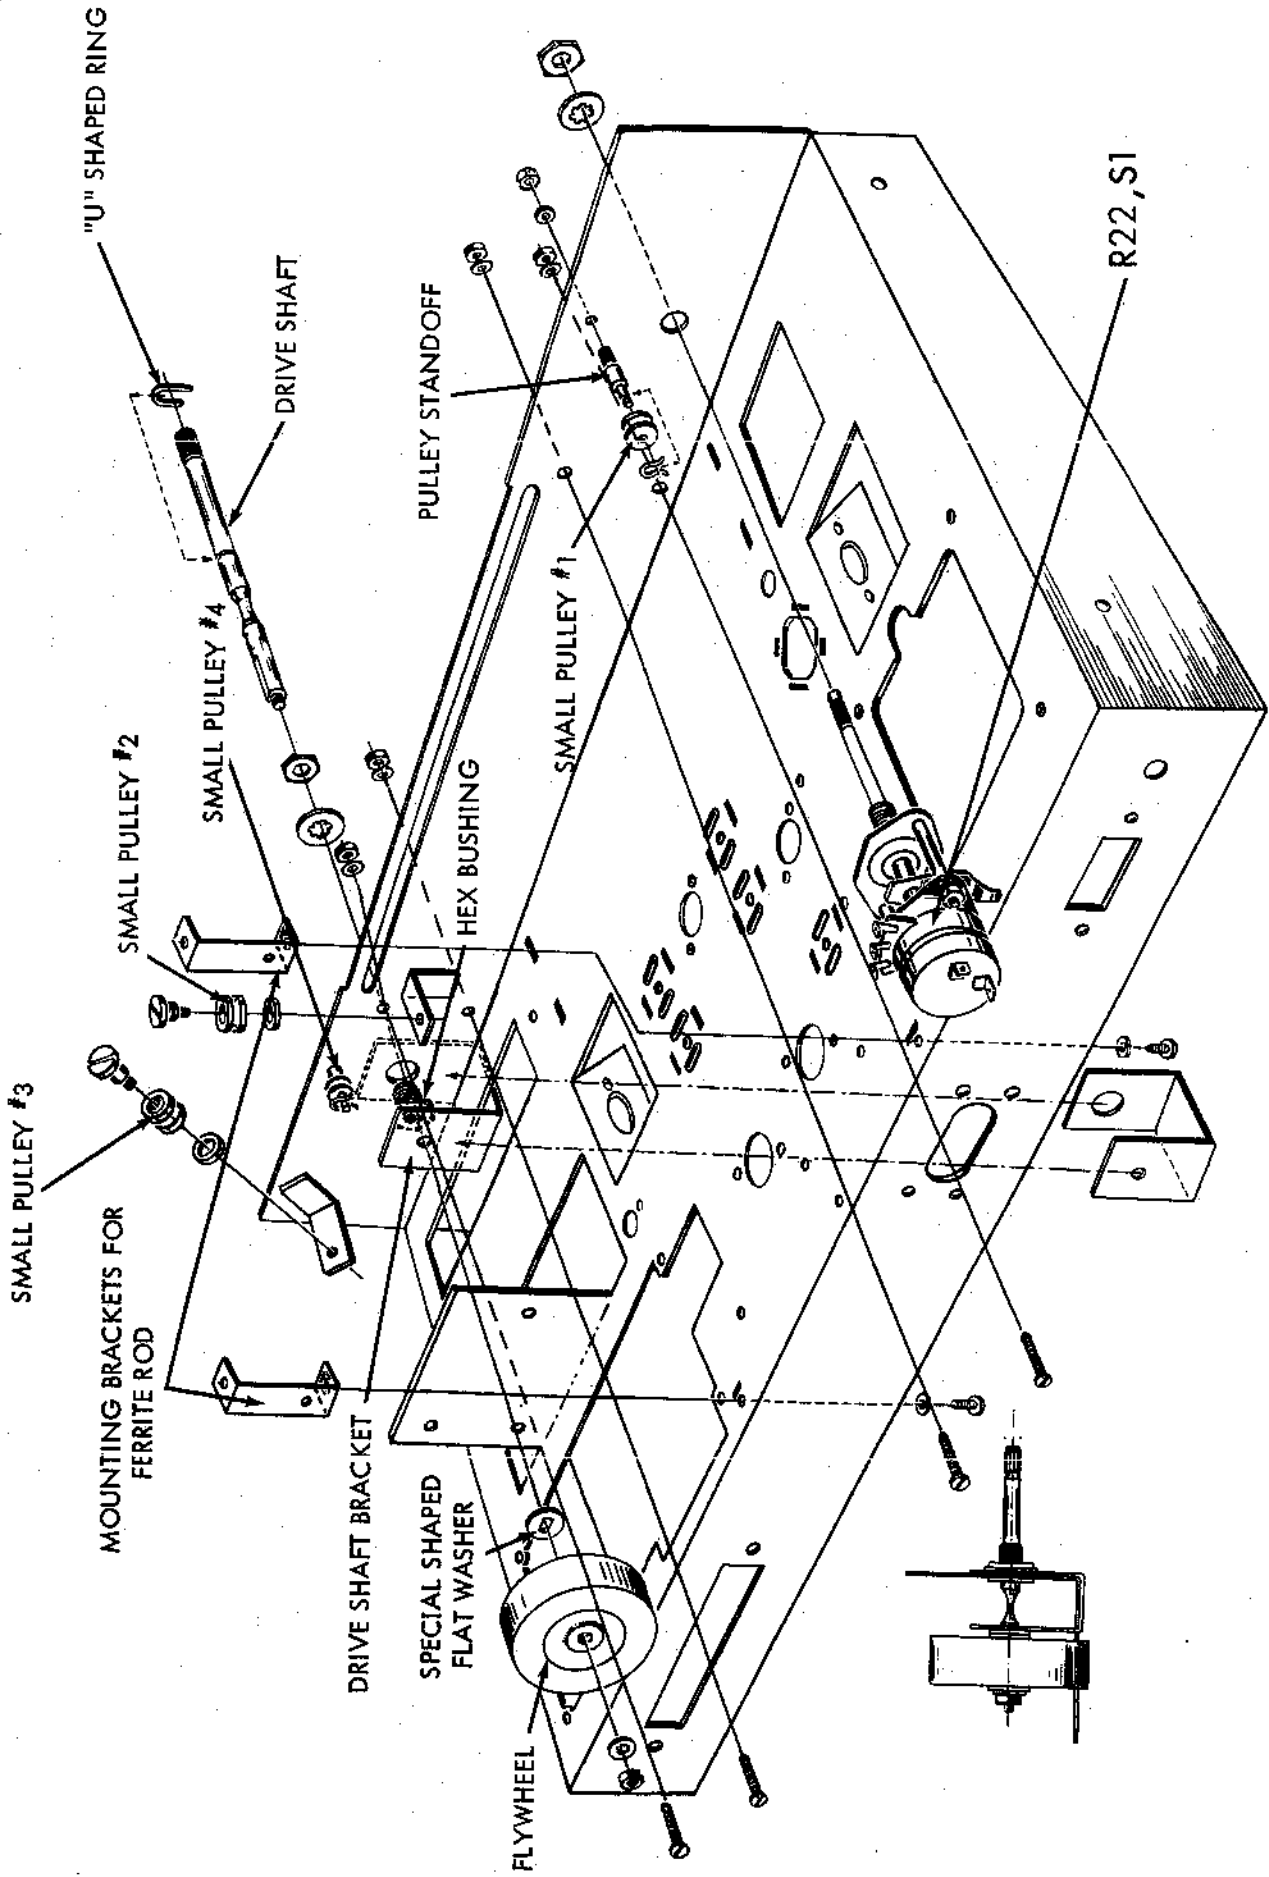

Fig. 1
- (c) 1. Fig. 1. Mount the drive shaft bracket from below the chassis as shown. Set the bracket in position so that the leg with the large hole rests against the front side of the chassis apron. Secure the 3/8 hex bushing (and the drive shaft bracket) in position with a 3/8 lockwasher and a 3/8 hex nut. Note that the leg with the larger hole against the front apron is mounted from the outside of the chassis. The bottom part of the bracket is below the chassis. Only the leg with the smaller round hole sticks out inside above the chassis and comes through the rectangular hole in the chassis.
- (c) 2. Fig. 1. Mount the potentiometer and switch combination, R22, S1, as shown. Note the lever from the shaft of the potentiometer extends through the rectangular hole underneath the component. Secure to the front chassis apron using one #3/8 lockwasher and one 3/8 hex nut.
- (c) 3. Fig. 1. Just above the potentiometer switch combination, R22, S1, mount the pulley standoff to the chassis. Use one #6 lockwasher and one #6-32 hex nut.
- (c) 4. Fig. 1. On the thin shaft of the standoff, mount the small pulley #1. Use a cotter pin to secure the pulley to the shaft.
- (c) 5. Fig. 1. Similar to steps numbers 3 and 4, mount the Small Pulley #4 on the front apron of the chassis, as shown.
- (c) 6. Fig. 1. Mount the small pulleys #2 and #3 to the angle brackets welded to the front apron on the chassis. Use one special #4 shoulder screw (upper shank unthreaded) and a #4 flatwasher on each. Place one pulley on top of each washer. Do not tighten the screws too much or the pulleys will bind and the threads will be damaged.
- (c) 7. Fig. 1. Mount the two ferrite rod mounting brackets to the top of the chassis near the rear edge. The small tab in one leg of each bracket fits through the rectangular slit in the chassis. Secure each bracket with a #6-32 x 1/4 screw and a #6 lockwasher.
- (c) 8. Fig. 1. Mount four #6-32 x 1 1/8 screws to the front apron. Use a #6 flatwasher and a #6-32 hex nut for each screw. The black backing plate and dial scale will be mounted later to these screws.
- (c) 9. Fig. 1. Close the "U" shaped ring around the anular groove on the drive shaft.
- (c) 10. Fig. 1. From the front of the chassis, pass the threaded end of the cord drive shaft through the 3/8 bushing and the small hole in the drive shaft bracket. The threaded end of the cord drive shaft is now protruding at the rear from the small hole in the drive shaft bracket. Over this threaded end, pass the specially shaped flat washer, the flywheel, a #10 lockwasher and a #10-24 hex nut, in the order given. The flywheel will fit on the shaft only if the side of the flywheel having the three small circular indentations is facing toward the front of the chassis. Tighten the whole assembly. Note that the drive shaft must rotate freely. A position of the 3/8 hex nut can always be found which will permit free rotation of the drive shaft. Adjust the 3/8 hex nut a little bit at a time until you find a position at which the drive shaft does turn freely. Note that it is quite normal to find that the drive shaft will not turn freely if the 3/8 hex nut is either tightened or loosened slightly from a position at which the drive shaft does turn freely. DO NOT thread the dial cord until free rotation of the shaft is assured. Check the three pulleys mounted in steps 4 and 5 above to be sure that they will rotate freely.